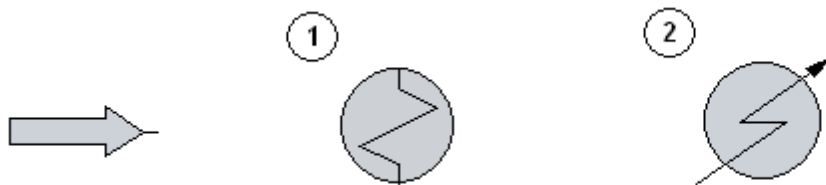

Figure 4: The flowsheet so far
6. Again move the cursor to the workspace, this time about an inch to the right of the first heat exchanger, and click the mouse. A single-sided heat exchanger icon appears on the flowsheet where you clicked. Your flowsheet so far should look something like Figure 4.